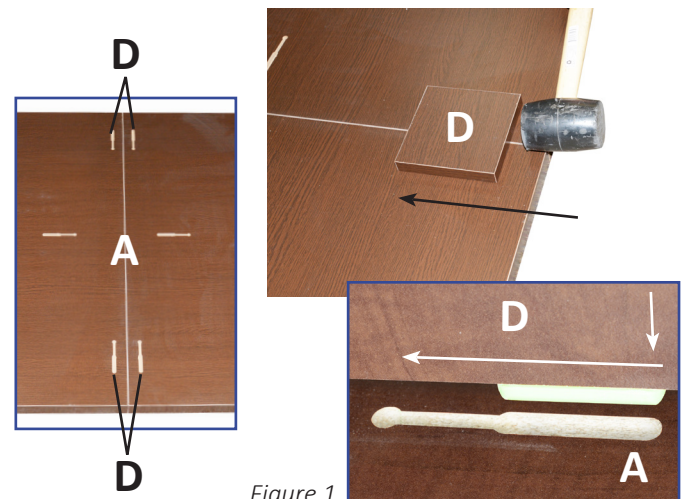

Figure 1
Attach **Brackets (D)** to the assembled **Table Top (A)** by lining up EClips with their coordinating holes pressing down in to place, and then tapping towards the center of the table. See *Figure 1* for details.